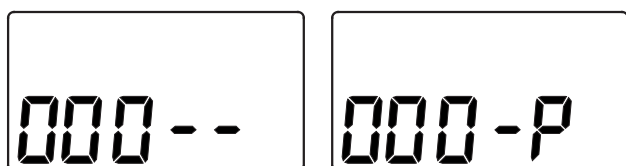
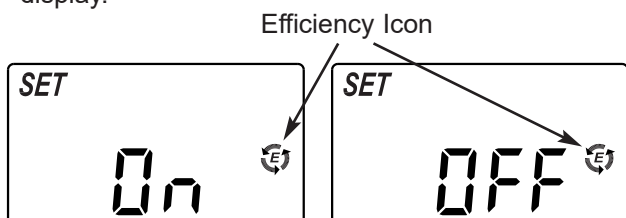

FIG. 24
FIG. 25
1. Press and hold the SELECT button until one of the screens in Figure 24 is displayed. Once in this display, press the SELECT button once again and one of the two displays in Figure 25 is shown.
1. Press and hold the SELECT button until the screen in Figure 24 is displayed.